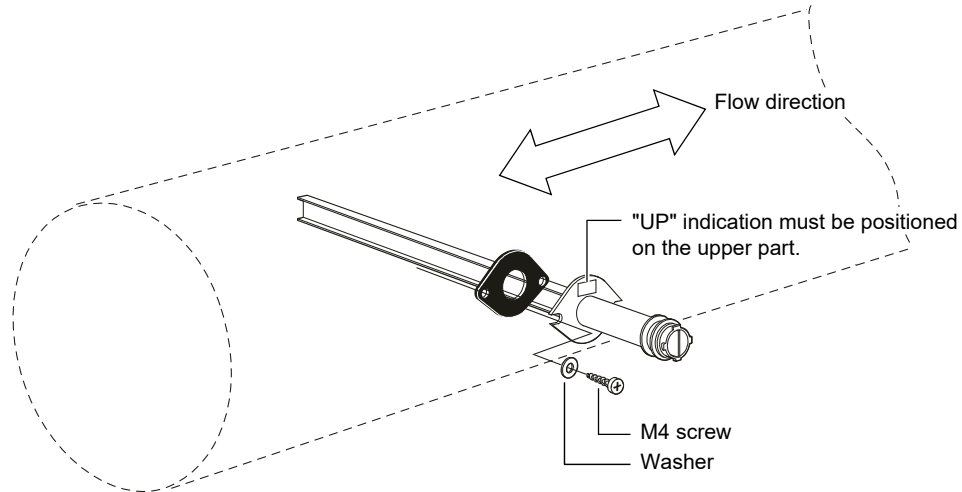

Figure 4. Mounting the sampling probe
- 4) Set the sampling probe so that the process fluid flows perpendicularly to the probe, as shown in Fig. 4. (There is no requirement for flow direction.)